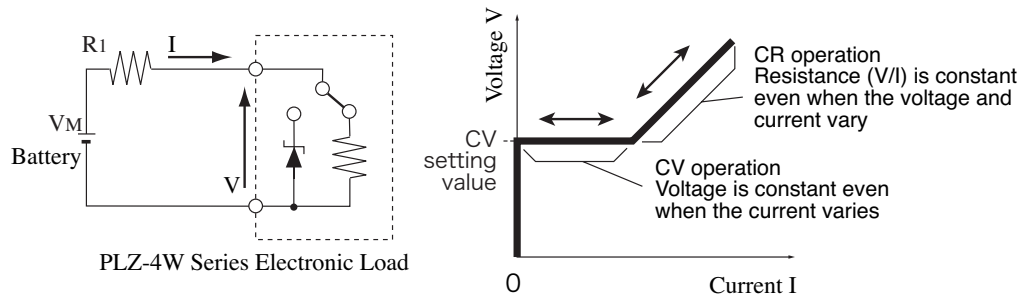

Fig. A-14 Equivalent circuit of the CR+CV mode and operation
When the PLZ-4W is used in CR+CV mode, the PLZ-4W operates as a constant resistance load and a constant voltage load (shunt regulator) as shown in Fig. A-14. When operating as a constant resistance load and the voltage (V_M) of the constant-voltage power supply is varied, the PLZ-4W sinks current to meet $I=V/R$ according to the specified resistance R . When operating as a constant voltage load and V_M is greater than V , the input voltage V is kept constant even when the input current I varies. Current does not flow when V_M is less than or equal to V .
The switching between the modes is automatic. In the fig. A-14, R_1 is the internal resistance of the constant-voltage power supply. In constant-voltage (CV) mode, the PLZ-4W may operate unstably if R_1 is low.
We will consider the case when checking the discharge characteristics of a battery of Fig. A-14.